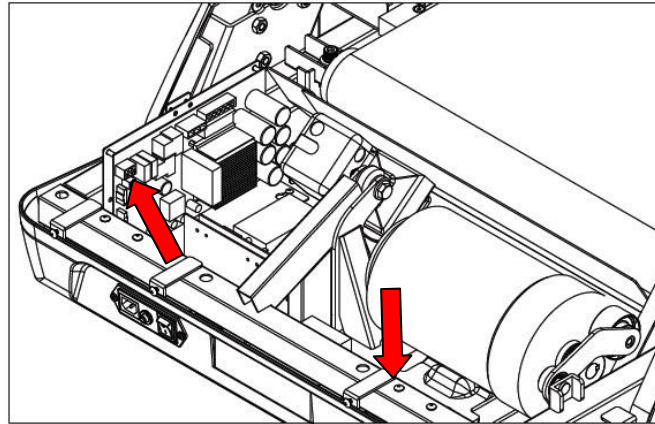

Figure 4.7.5
8) As shown in Figure 4.7.5, replace the incline motor and connect to all wires accordingly.